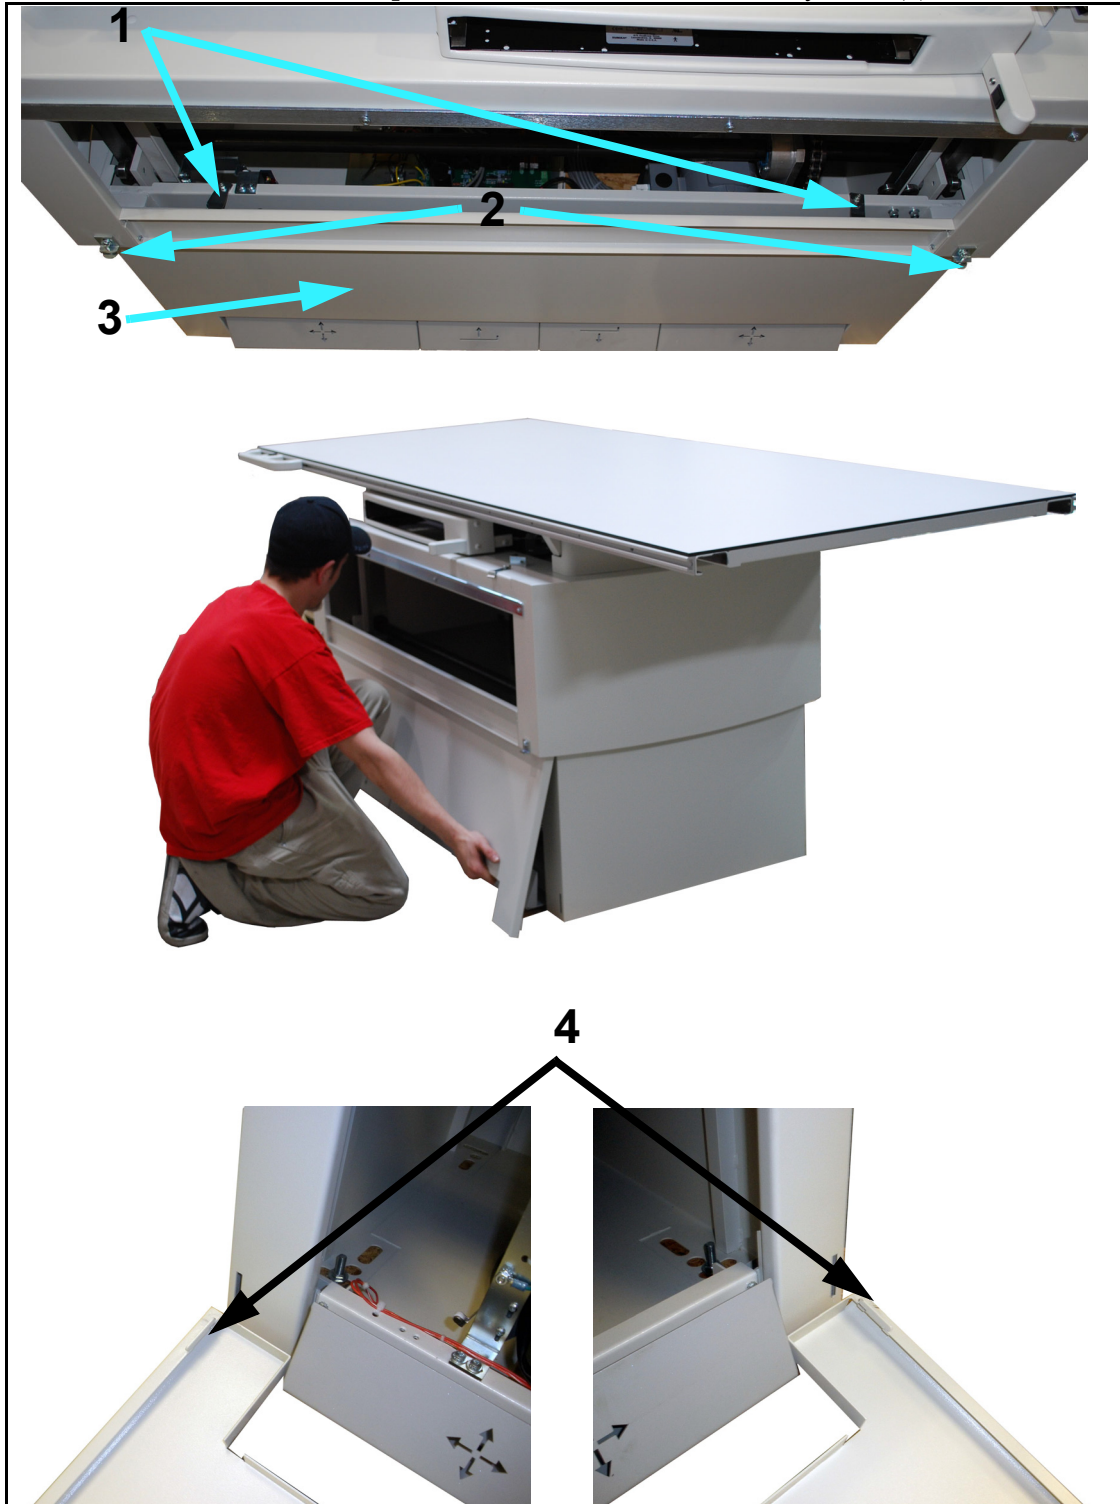

Figure 5-2. Lower Panel Clamps
- 4 Unscrew the two lower panel clamps screws (1 in Figure 5-2), then remove the lower panelhead screws (2).
- 5 Lift the lower panel (3) up slightly and then pull it out. The bottom of the lower panel is connected to the table by slots (4) shown below.